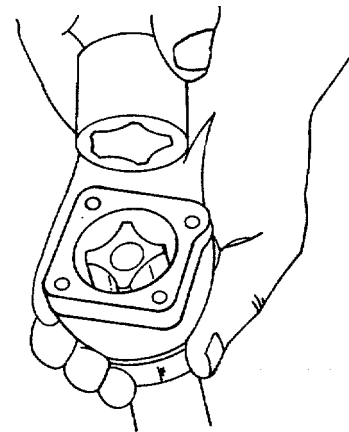

Figure 5-46. Inner Rotor.
- (4) Withdraw the drive shaft complete with inner rotor (see Figure 5-46).
- (5) Remove the outer rotor.